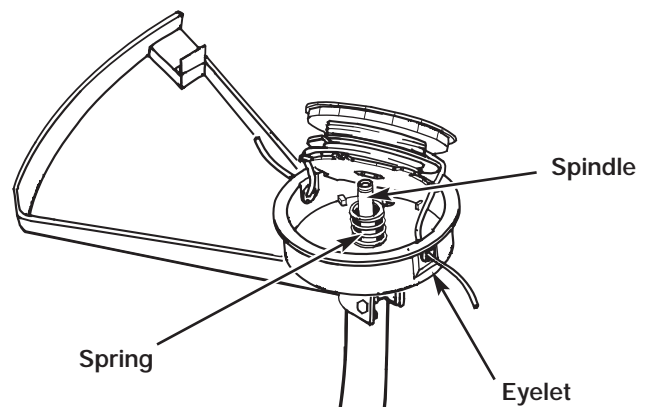

Fig. 18
8. Lower the spool onto the housing while feeding the line through the eyelets. Ensure that the spring seats itself into the spool (Fig. 18).